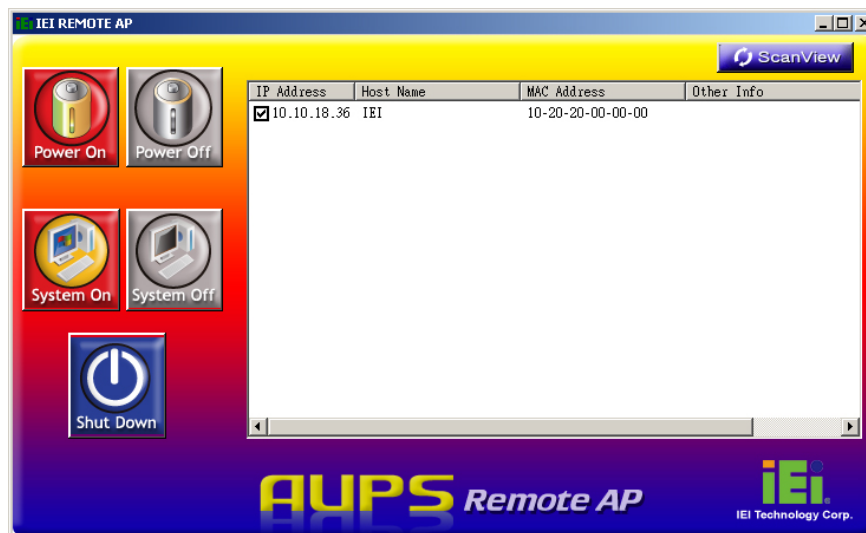

Figure 7-17: IEI REMOTE AP
Step 3: The IEI REMOTE AP tool appears (**Figure 7-17**). All the UPC-12A/GM45 panel PCs in the same subnet with this remote computer are shown in the list on the right. Click the function buttons on the left to control the UPC-12A/GM45.